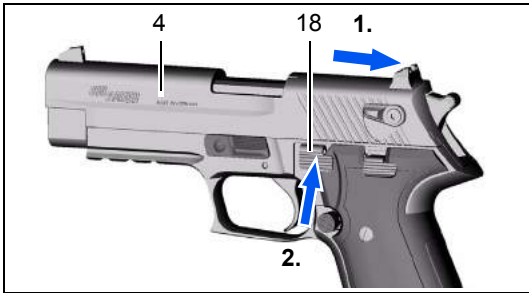

Fig. 13
3. Retract slide **4** fully and lock open by engaging the slide catch lever **18** (see Fig. 13).